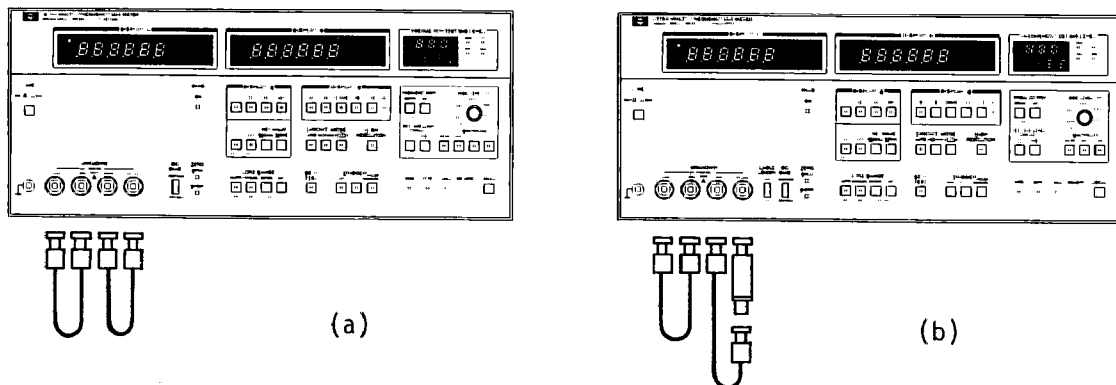

Figure 4-3. Self Operating Test Setup.
2. Connect LCUR and LPOT terminals with a BNC to BNC cable as shown in Figure 4-3 (a). Similarly Connect HCUR and HPOT terminals.
6. Remove the BNC cable from the HCUR terminal and connect a 50Ω feed-through termination between the HCUR terminal and the BNC cable. See Figure 4-3(b).
12. Remove the 50Ω feed-through termination and connect the BNC cable between the HCUR and HPOT terminals, as shown in Figure 4-3(a).